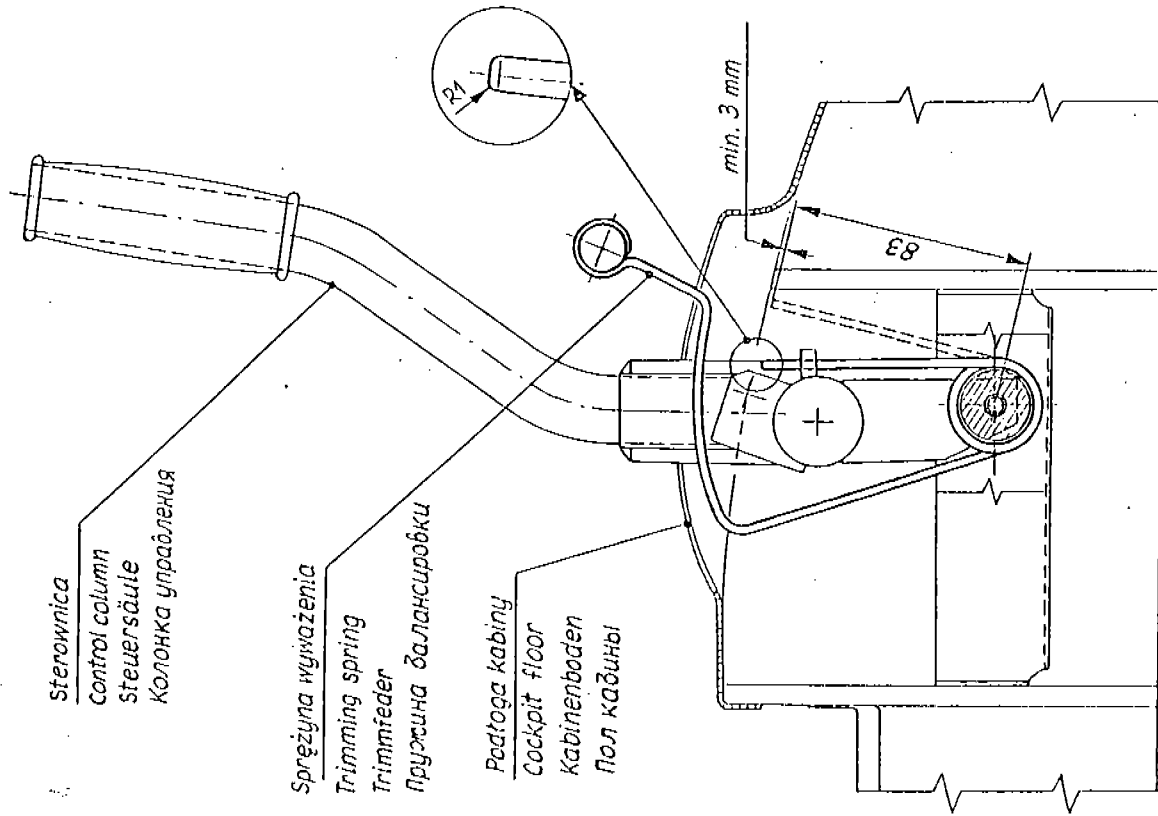

Fig. 1.
The sketch No Fig 1 is enclosed to this Bulletin
4.3. Measure the disassembled spring and check the length of the arm fitted in the "eye" on the control column body /see Fig.1/. The arm length should be 83 mm. If the arm is longer it should be grinded for the correct dimension and the end rounded as shown on the sketch. If the dimension is correct the end should be rounded only.